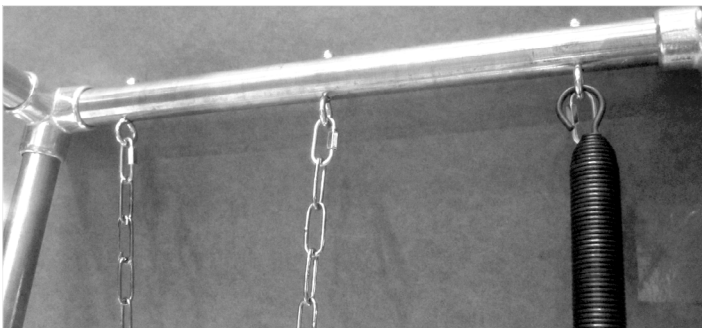

Figure 5
13. Attach the Long Safety Chains to the outside eye bolts on the top canopy head end. See Figure 1. Attach the short Safety Chain to the middle eye bolt on the same end. The quick links will be attached to the eye bolts in the canopy, see Figure 5.